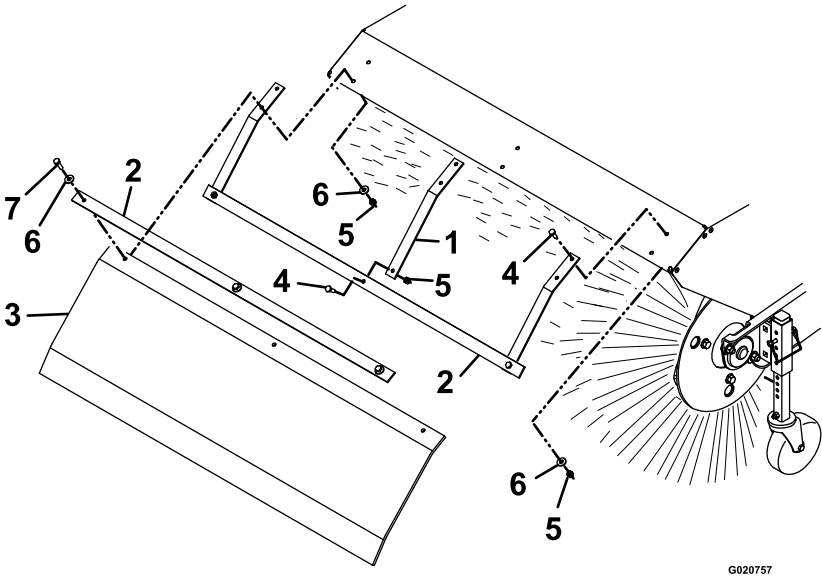

Figure 1
2. Place the support frame assembly from step 1 on top of the broom hood and align the six holes. Install three 1/4-20 x 3/4 inch screws, washers, and 1/4-20 inch nyloc nuts into the top hole of the straps and broom hood (reference Figure 1).